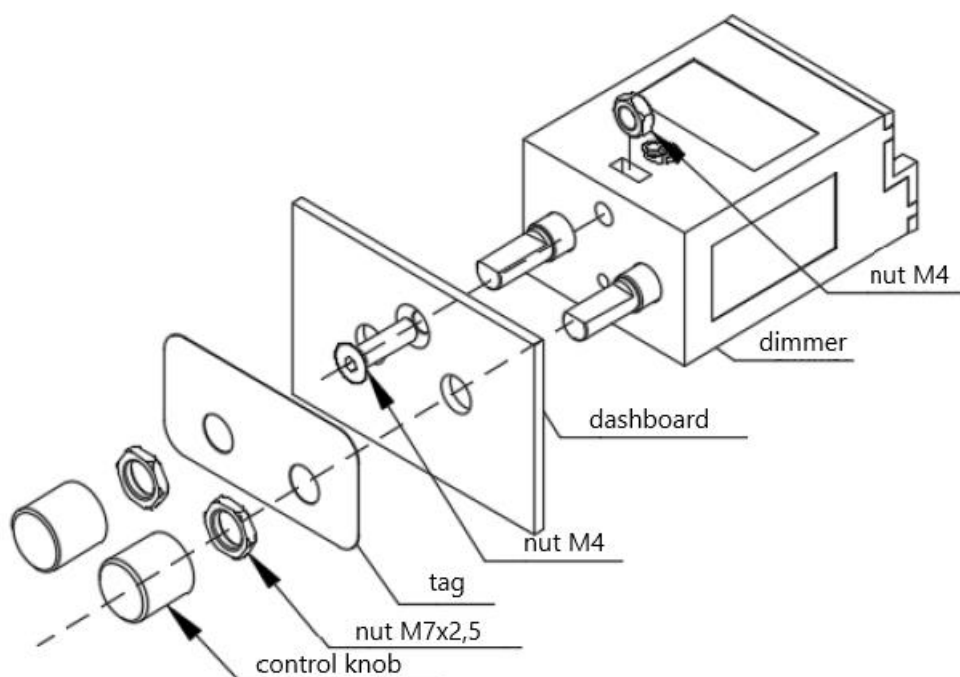

Fig. 6: New dimmer
- 11) Insert the dimmer into the holes in the dashboard. (see Fig. 6).